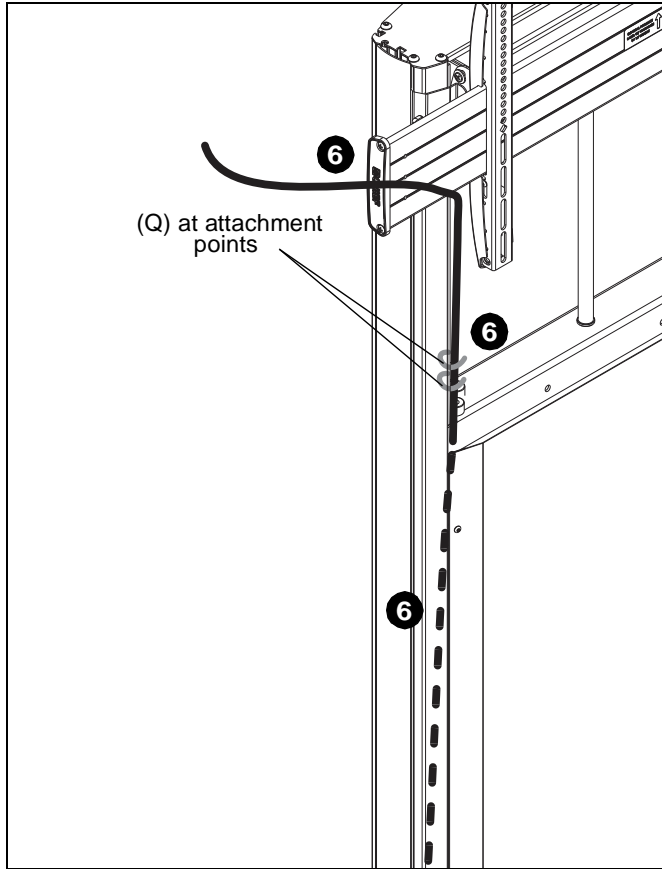

Figure 20
- Route cables from display through inside of column assembly attaching at cable management attachment points and/or accessory bracket as desired. (See Figure 20)